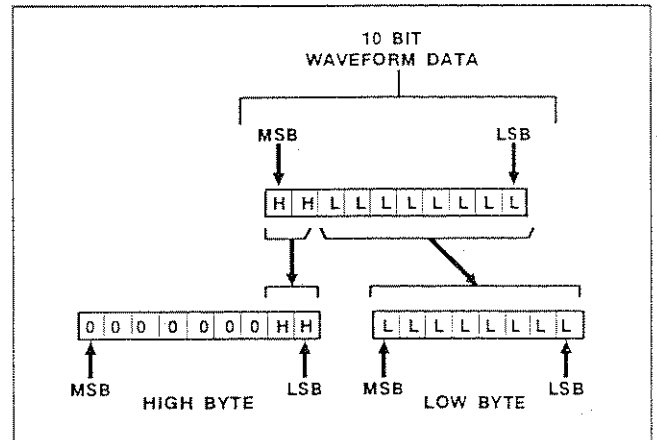

Fig. 5-1. Transfer of 10-bit waveform data.
- <binary point>::= 10 bits. With 10-bit resolution, each waveform data point is transferred in two bytes: high byte first, then low byte. The 2-MSBs (most significant bits) of the 10-bit waveform data are transferred as the 2-LSBs (least significant bits) of the high byte (the remaining six bits of the high byte are set to zero). The remaining 8 bits of waveform are transferred as the low byte (Fig. 5-1).